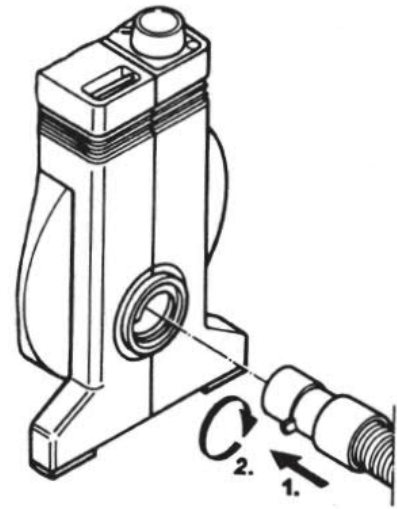

Fig. 4
- Connect the air hose to the Blower by turning the air hose connector clockwise in the blower opening (fig. 4).